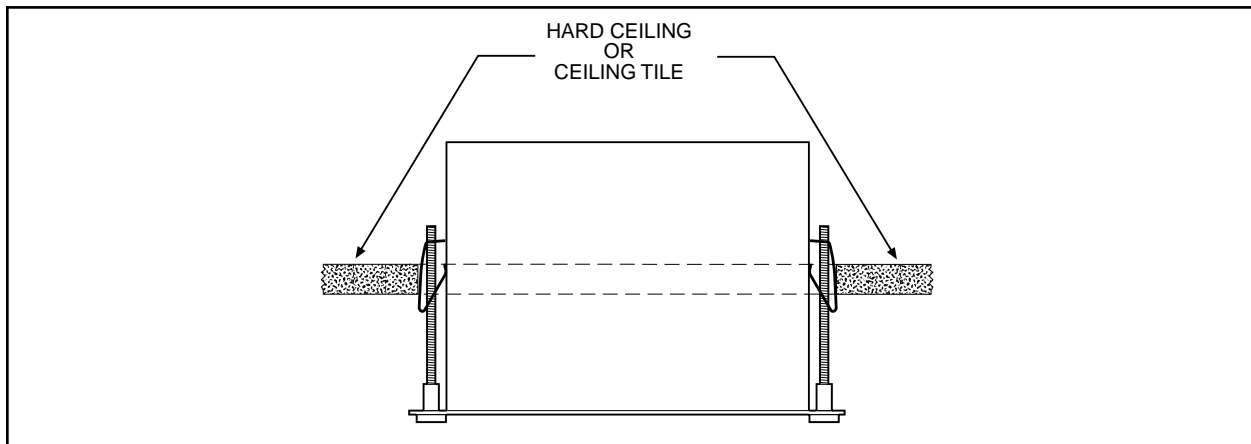
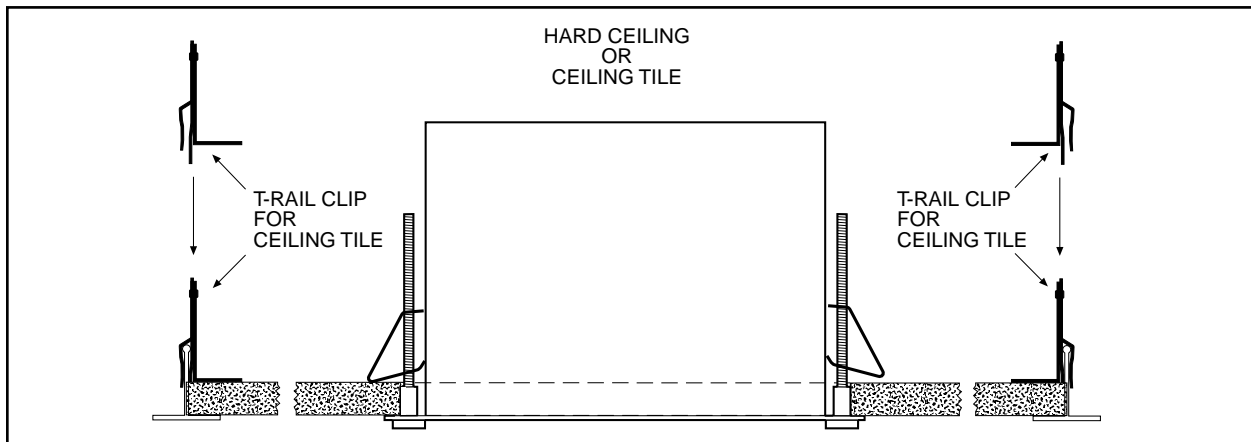

Figure 6. Installing Back Box
Figure 7. Fastening Back Box
7. Refer to Figure 6. Compress the spring clips on the back box with your hands and push the back box through the hole in the ceiling tile. The spring clips will spring out when they clear the ceiling tile.
8. Refer to Figure 7. Tighten the screws until the spring clips hold the back box firmly to the ceiling tile. You will hear a clicking noise when the screws are tight. Do not install the ceiling tile in the ceiling yet.
1. **Suspended Ceiling Only (for hard ceiling, go to step 2)** – Install the ceiling tile with the back box. Attach a T-rail clip on each side of the ceiling tile as shown in Figure 7.
5. **Hard Ceiling Only** - Refer to Figure 6. Compress the spring clips on the back box with your hands and push the back box through the hole in the ceiling. The spring clips will spring out when they clear the ceiling. Refer to Figure 7. Tighten the screws until the spring clips hold the back box firmly to the ceiling. You will hear a clicking noise when the screws are tight.